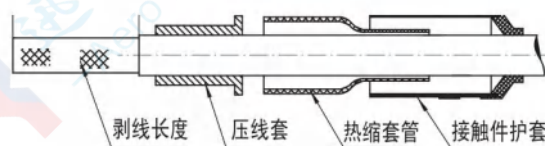

图2.3 剥去电缆外套
- 2) Strip the cable jacket according to the dimensions marked in Figures 2.3 and 2.4 (stripping length for pins is 10mm, and 15mm for sockets). Carefully comb out the shield layer, fold it back onto the crimp sleeve, and cut off the internal filler of the conductor near the shield layer;